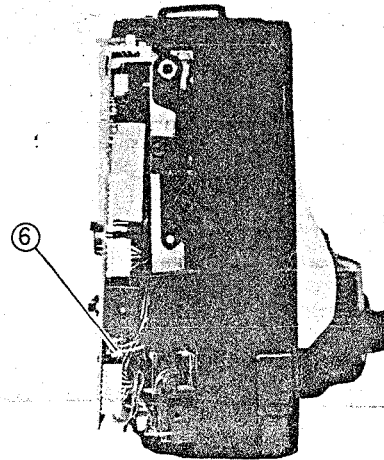

Fig. 2-7 Right Case Removal
Right Case Removal (Figs. 2-7, 2-8)
6. Disconnect connector CN909. (See Fig. 2-7)